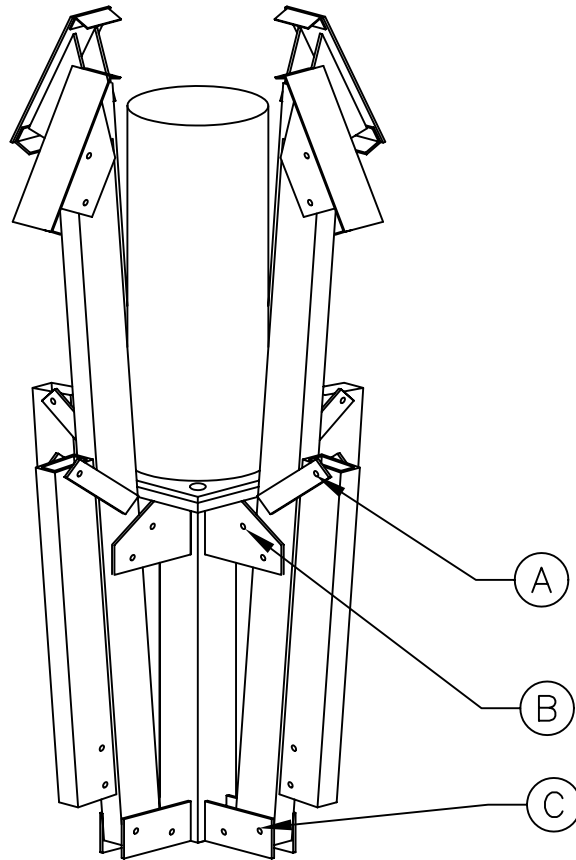

FIGURE 1
SIMILIAR TO THE MOUNT SHOWN IN FIGURE 1
- 1.) THE FOLLOWING INSTRUCTIONS WILL BE HELPFUL IF THE UNIT WAS NOT RECEIVED PACKAGED AS SHOWN IN FIG. 1
- 3.) LOCATE A 72" ARM, THEN WITH THE TABS POINTED TOWARDS THE GROUND & AWAY FROM THE BASE, ATTACH THE ARM TO THE UPPER FINS ON THE BASE USING (2) 1/2"x3-1/4" BOLTS, NUTS & LOCKWASHERS. (NOTE: LEAVE ALL HARDWARE LOOSE UNTIL ASSEMBLY IS COMPLETE).
- 4.) ATTACH THE 36" BRACE TO THE LOWER FINS ON THE BASE USING (2) 1/2"x3-1/4" BOLTS, NUTS & LOCKWASHERS. ATTACH THE OTHER END OF THE BRACE TO THE THE TABS ON THE 72" ARM USING (1) 1/2"x3-1/4" BOLT, NUT & LOCKWASHER. (NOTE: THE SINGLE HOLE OF THE BRACE SHOULD BE TOWARDS THE TOP OF THE PIECE.)
- 5.) ATTACH A SHOE TO THE END OF THE ARM USING (2) 1/2"x3-1/4" BOLTS, NUTS & LOCKWASHERS.
- 7.) ATTACH THE O.D. MAST PIPE USING (4) 5/8"x2" BOLTS, NUTS & LOCKWASHERS.